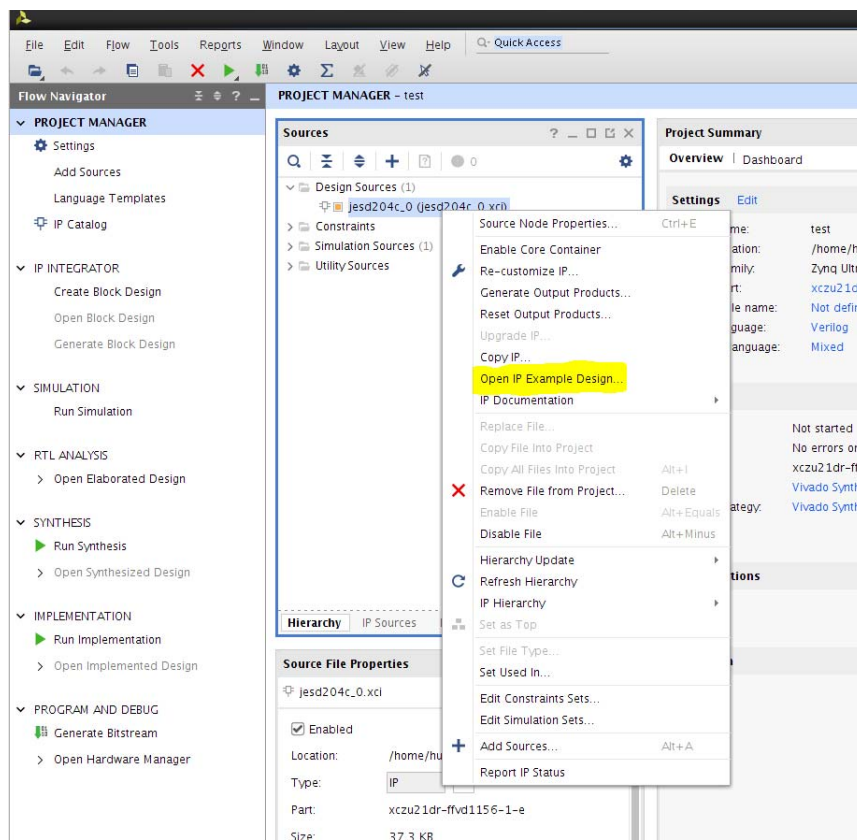

Figure 5-1: Opening the Example Design
5. Select **Open IP Example Design**, from the drop-down menu as shown in Figure 5-1. This opens a new Vivado project containing the complete RX or TX design example.